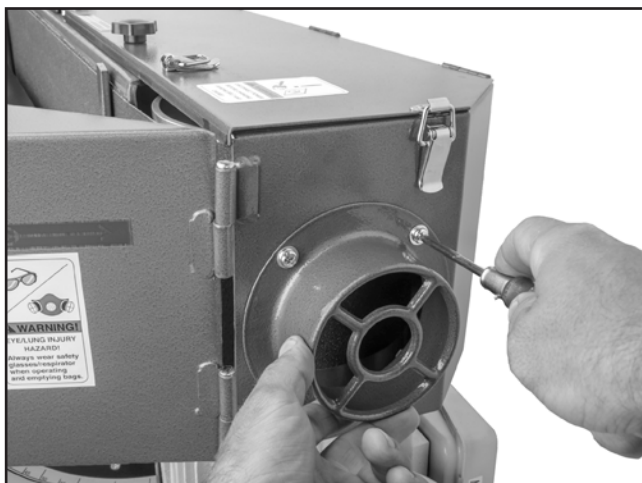

Figure 8. Installing dust port.
2. Insert Phillips head screws and washers through aligned holes and tighten (see **Figure 8**).